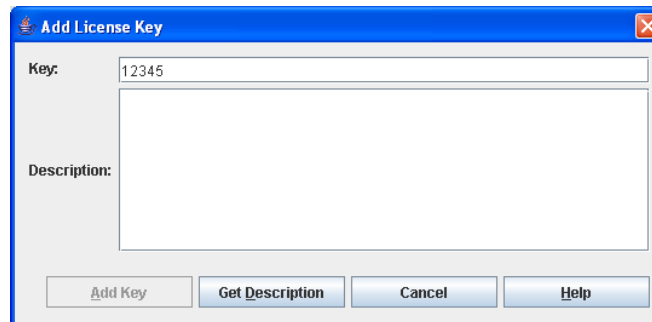

Figure 4-15. Add License key Dialog
4. Click the **Add** button to open the Add License Key dialog shown in Figure 4-15.